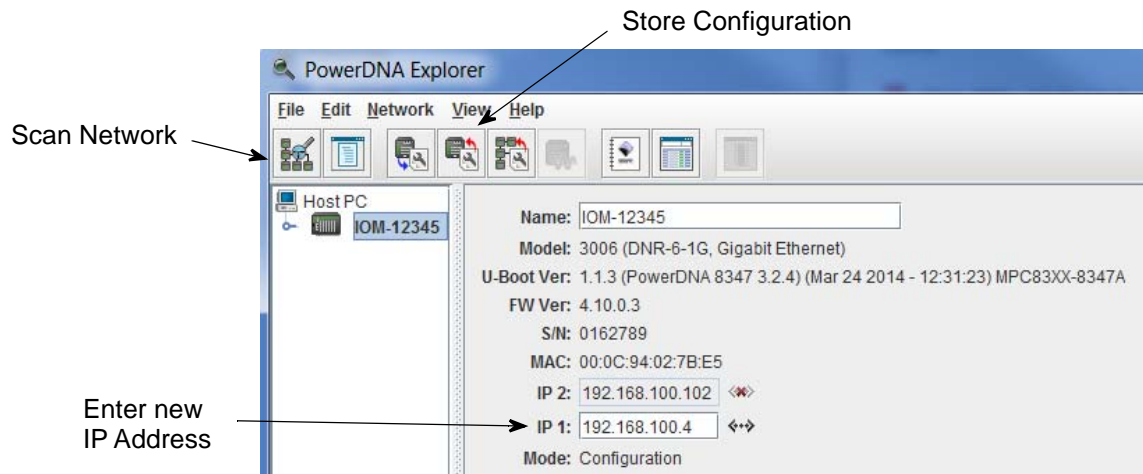

Figure 4-3. Using PowerDNA Explorer to Change IP Address
- STEP 1:** Click **Scan Network** to explore your system (refer to **Figure 4-3** for button location).